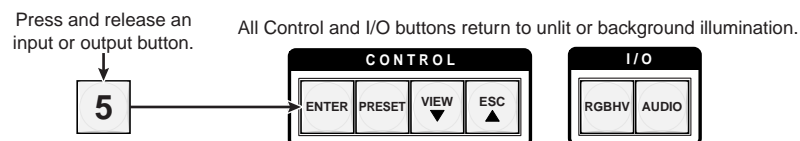

Figure 3-81 — Exit Serial Port Configuration mode
4. Press and release an input or output button to exit the *Serial Port Configuration* mode (figure 3-81).